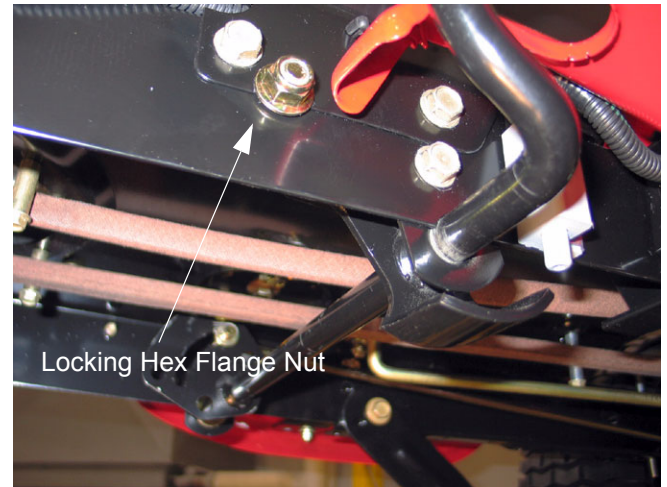

Figure 66
- 17.3. Using a 9/16" socket and an open-end wrench, remove the nut securing the speed control latch assembly to the frame. See Figure 66.